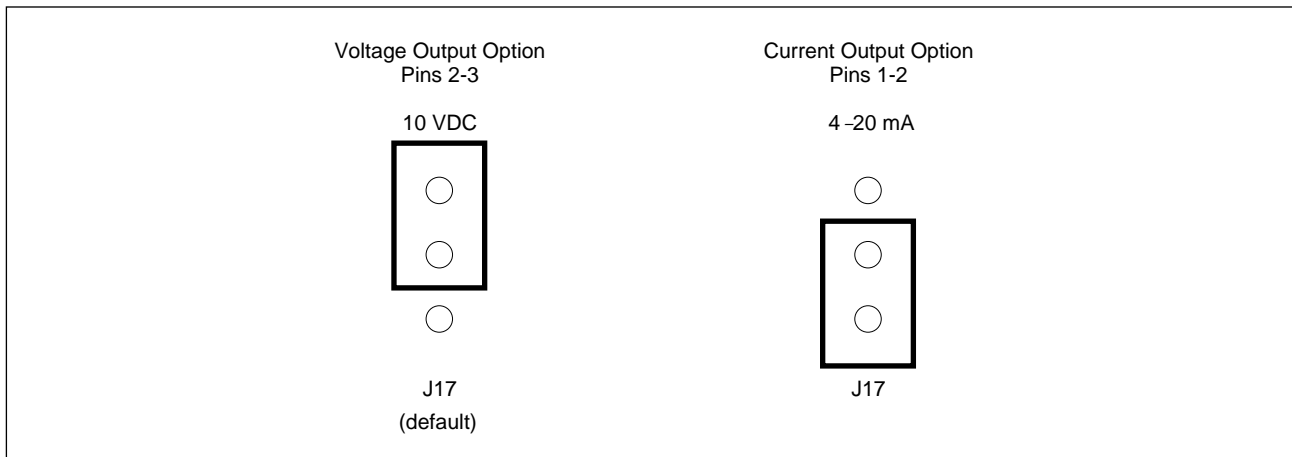

Figure 2.7 – Jumper J17 Settings for Analog Outputs
- Step 5. Locate pin 1 on jumper J17. Move the jumper to the desired setting as shown in figure 2.7.